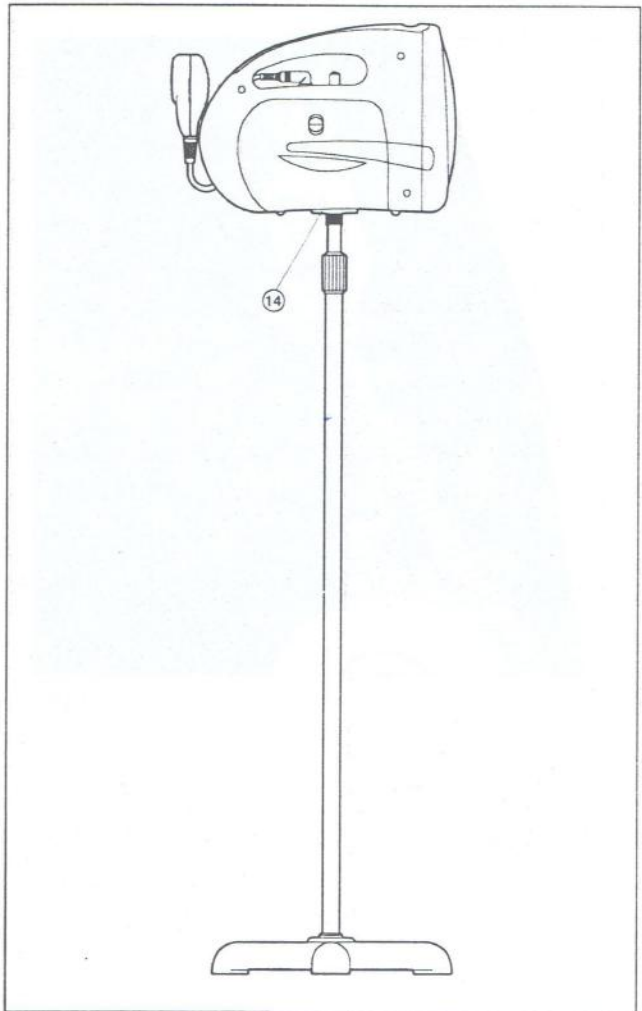

Fig.6
3.4.2 Fix the stand as shown on Fig.6.